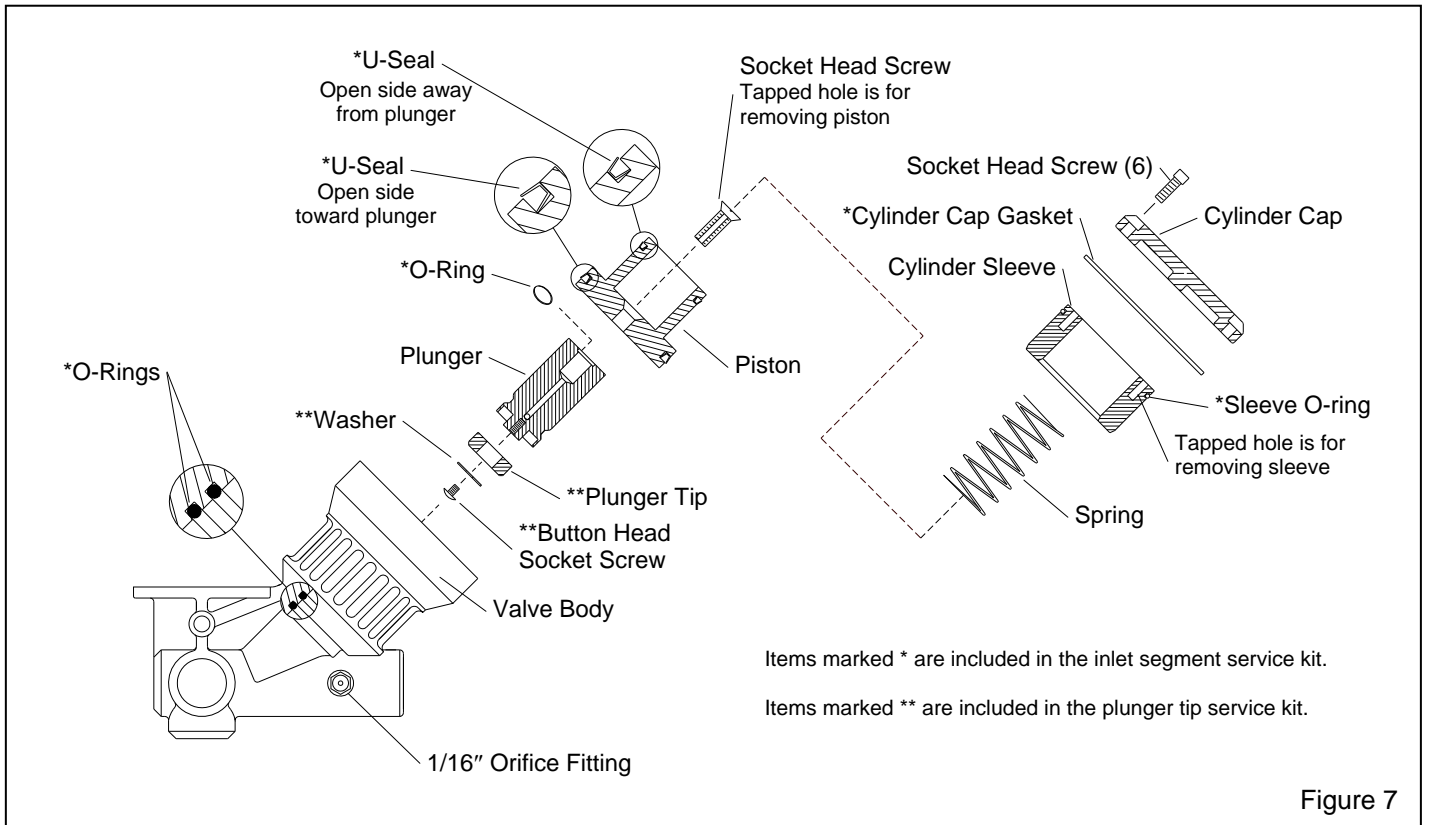

Figure 7
6.3 Millennium Valve Inlet Segment, Ref. Figure 7.
6.3.10 Place the U-seals into the grooves on the piston, the open side of the large seal faces the plunger, and the open side of the small one faces away from the plunger, as shown in Figure 7.
6.3.15 If fittings on the body were removed, make sure the 1/16" orifice fitting is threaded into the port, as shown in Figure 7.